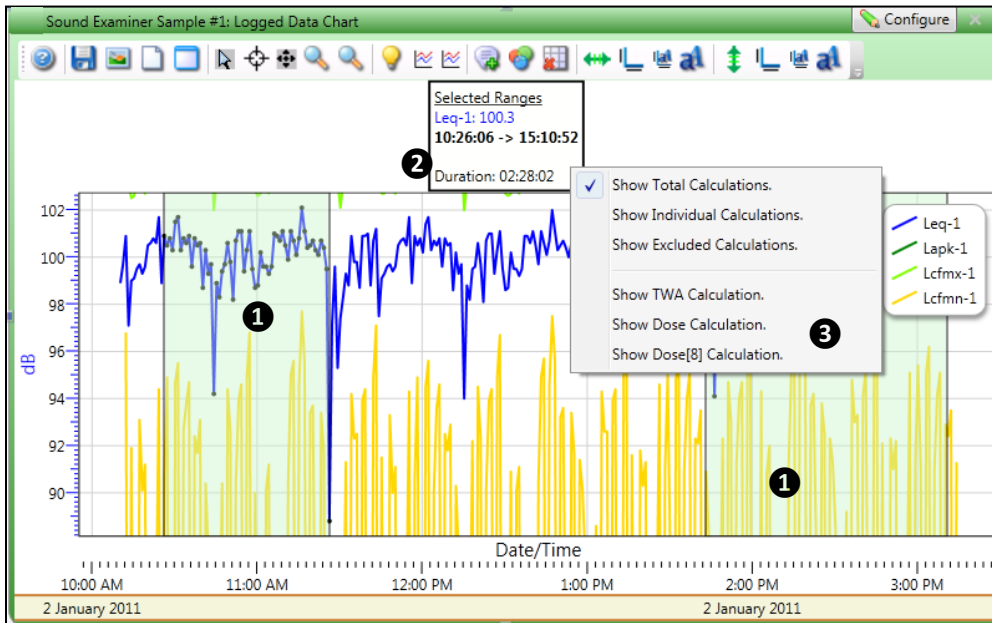

Figure 1-118: SE-400 Series and logged data chart
- Shading will appear over the selected data range (see **1**, Figure 1-118).
- A calculation box will appear (see **2**, Figure 1-118) above the chart showing the calculations.
- To change which options and additional calculations are displayed in the calculation box, right-click on the box and a context menu will appear (see ③, Figure 1-118). Select your desired options: **Show Total Calculations** (a combined calculation of all selected ranges), **Show Individual Calculations** (an individual calculation for each selected range), and/or **Show Excluded Calculations** (a combined calculation of all non-selected ranges). Select your desired additional calculations: **Show TWA Calculation**, and/or **Show Dose Calculation Show Dose[8] Calculation**.